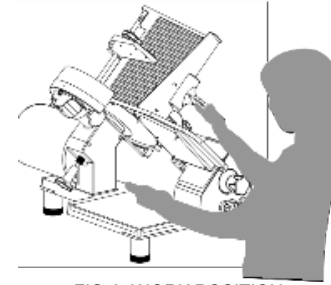

FIG 6. WORK POSITION
- 6.- Locate in the correct working position (See Fig. 6), and now you can start to slice the product. For best results, keep knife (2) sharp.
- 7.- When operations are finished, always turn the machine off by pressing the ON/OFF "O-I" key and turn the thickness gauge knob (6) clockwise as far as it will go (BE SURE THAT THE PLATE (12) COVERS THE EDGE OF THE KNIFE TO PREVENT AN ACCIDENT).
- 8.- Return the handgrip (15) to its stowed position under the carriage following the steps 3 of this section.